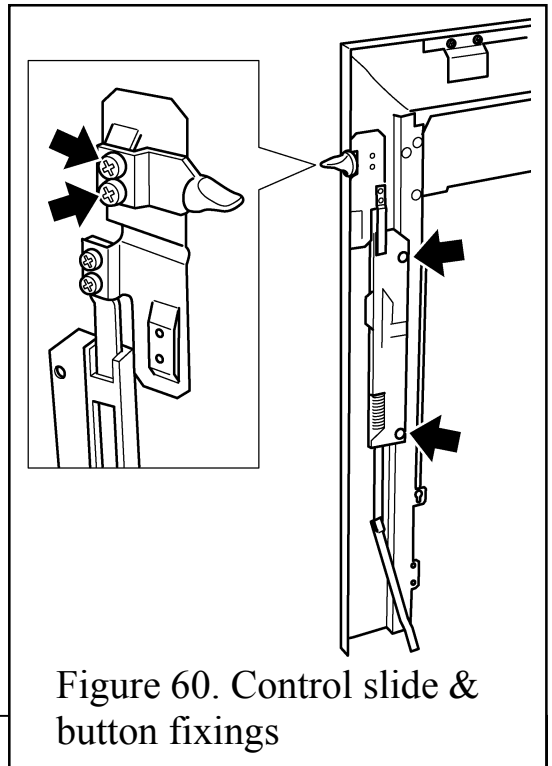

Figure 60. Control slide & button fixings
2. Detach the slide button by removing two screws – See figure 60.